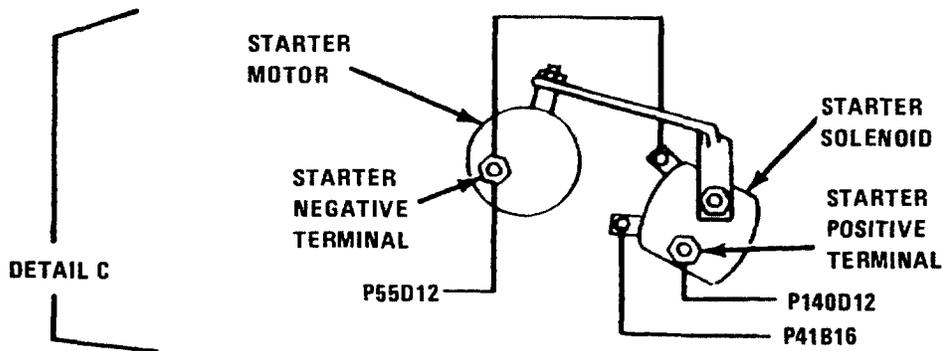

Figure 4-18. Wiring Harnesses, Removal and Installation (Sheet 5 of 5)
(3) Replace defective terminal lugs or connectors.
(4) If disconnected, connect negative battery cable.
g. Installation. Refer to figure 4-18 and install wiring harnesses. Pay particular attention to the following:
(1) Connect harness connectors and wires.
(2) Secure harnesses with clamps.
(3) Join harnesses in common run from one side clamp of engine to opposite side clamp at 6 inch (150 mm) intervals with tiedown straps.
- (4) Refer to FO-3 and check harnesses for proper connection.
- (5) Connect negative battery cable.